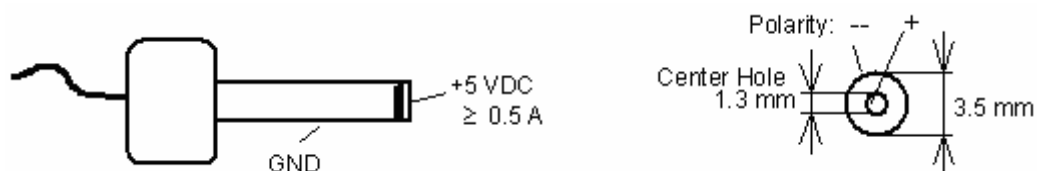

Figure 4: Power Connector
- Connect the included 5V power adapter to the power socket X304 on the phyCORE Carrier Board (refer to Figure 4 for the correct polarity).